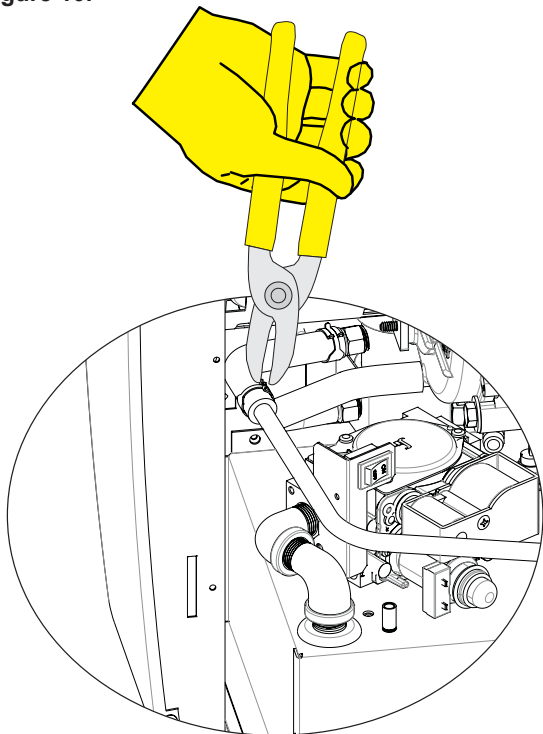

Figure 10
13. Insert the “L” shaped end of the condensate tube into the black condensate hose attached to the condensate trap. Use the pliers to move the hose clamp to the portion of the condensate hose which is over the condensate tube. **See Figure 10.**